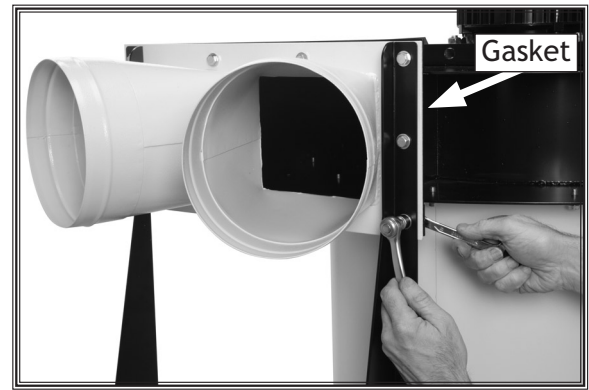

Figure 23. Attaching the outlet port and filter L-braces to the blower housing (Model W1810).
14. Attach the outlet port and filter L-braces to the housing with the outlet gasket between, as shown in **Figures 23 & 24** using the fasteners below.